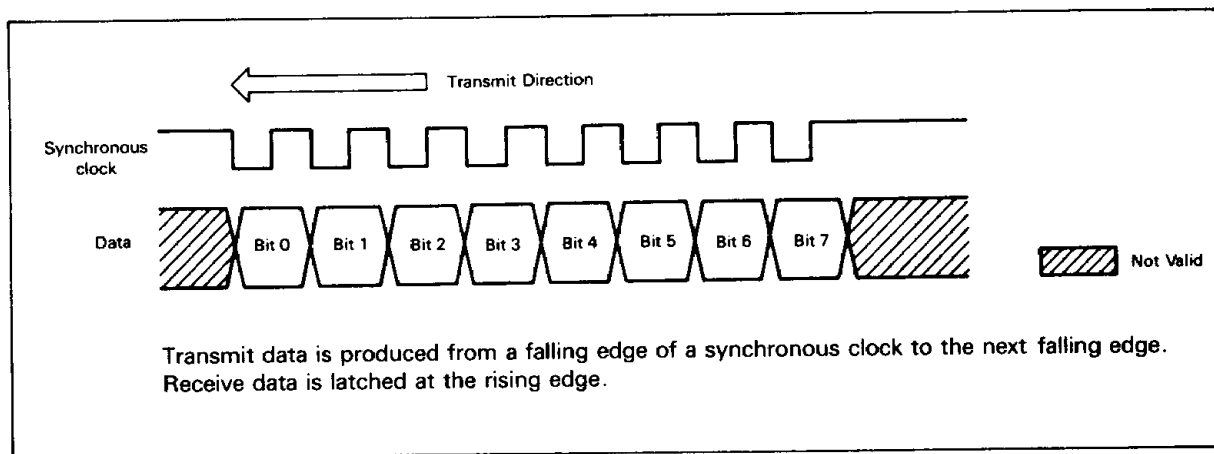

Figure 33. Synchronous Format
**Synchronous Mode** : In the clocked synchronous mode, data is transmitted synchronously with a clock pulse. Since the HD63701Y0 has an independent transmitter and receiver, full duplex operation is available, but only in asynchronous mode. In synchronous mode, P22 is the only clock pin, so simultaneous transmission and reception is impossible. TE and RE should therefore never be set to 1 at the same time. Figure 33 shows the clock and data format in synchronous mode.